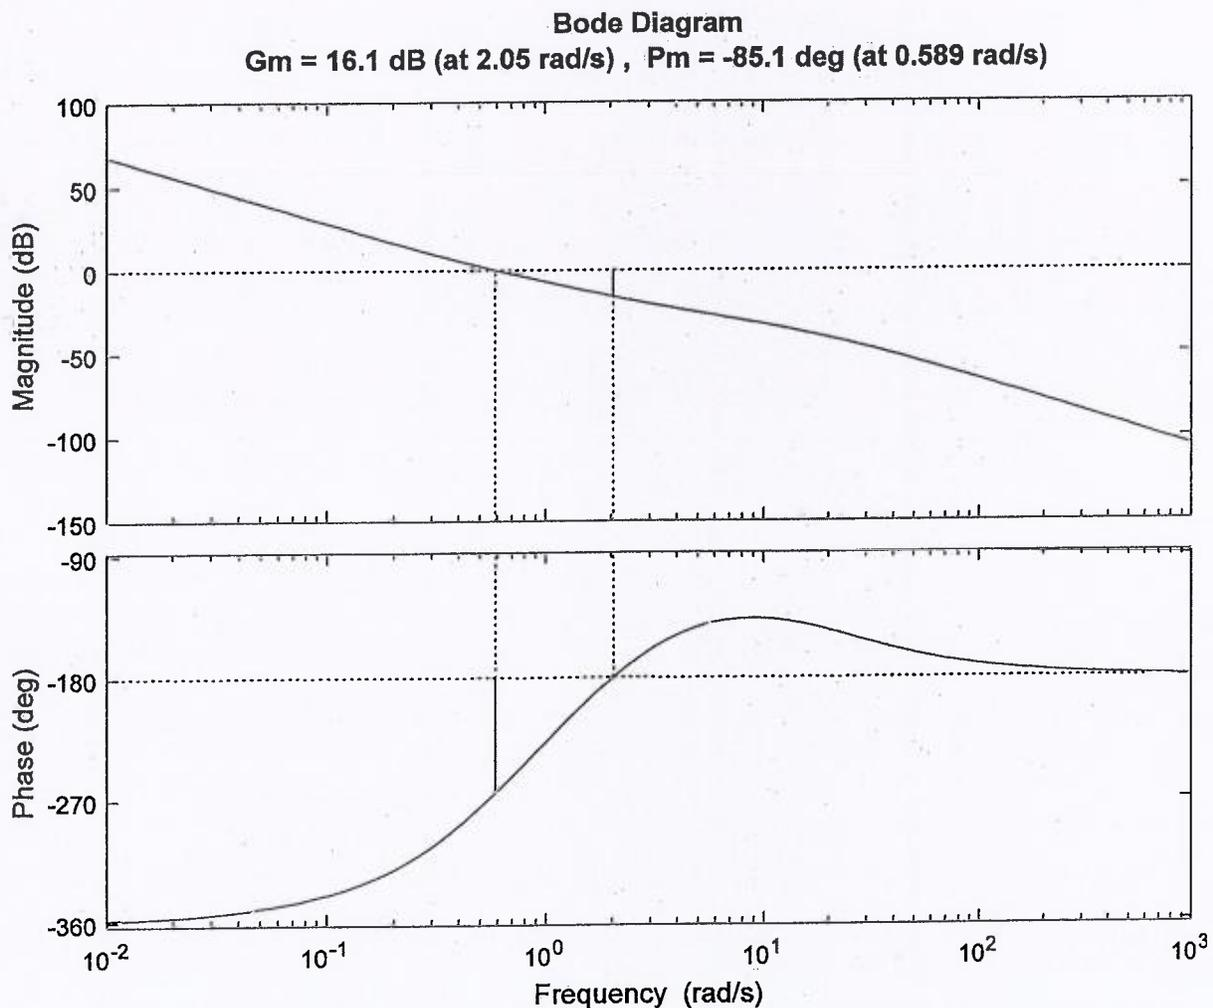
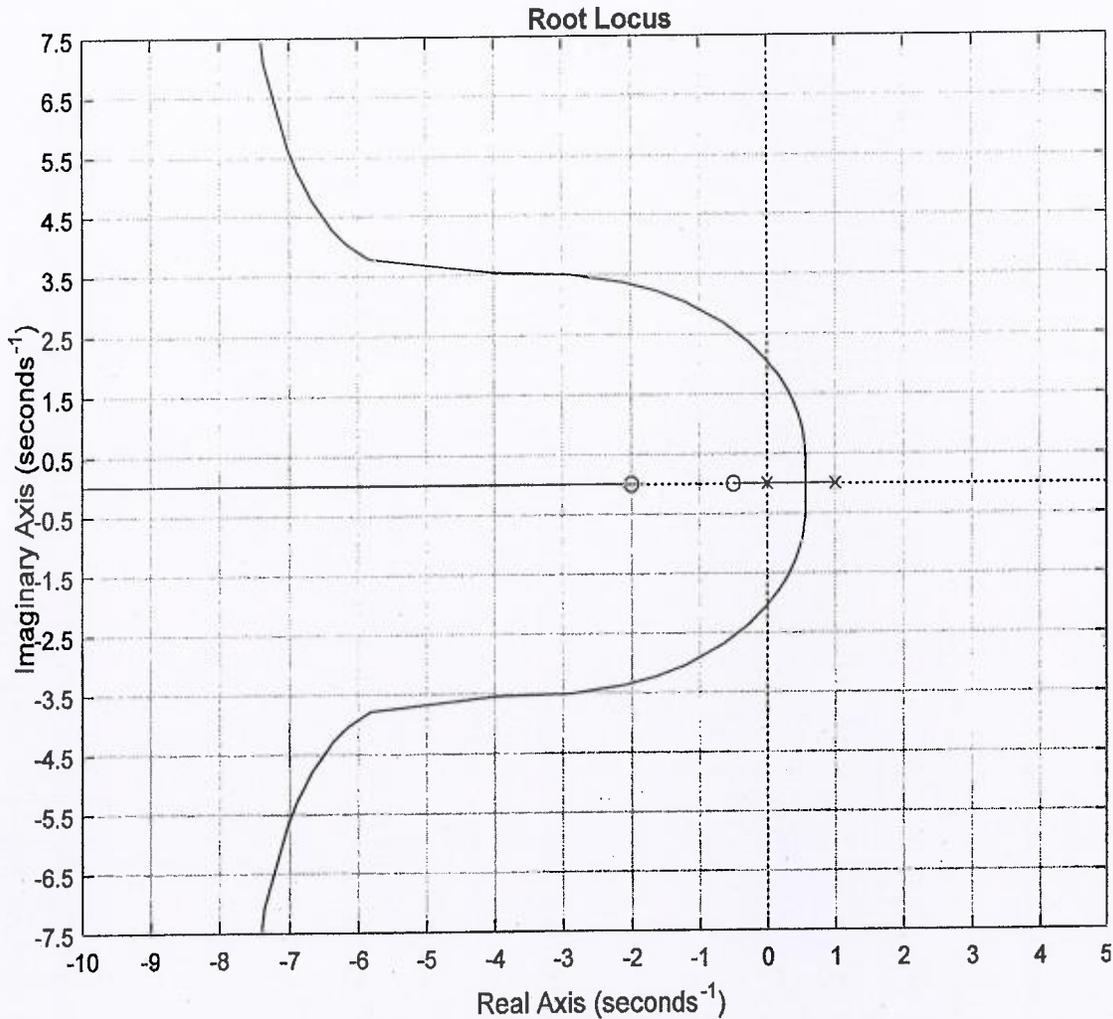

Figure Q4.1 – Open Loop Compensated System Frequency Response
Figure Q4.2 – Root Locus of the PID-Compensated System
The PID controller time constants are as follows: $T_i = 2$ seconds and $T_d = 0.5$ seconds. A frequency response (Bode plot) for the compensated open loop system is shown in Figure Q4.1, and the corresponding Root Locus plot is shown in Figure Q4.2.
1. **(10 marks)** Use the information provided in Figure Q4.1 & Figure Q4.2 to determine the range of Proportional Gain, K_p , for a safe, stable operation of the closed loop system.
2. **(10 marks)** Verify the range of Proportional Gain, K_p , found in item 1) for the safe, stable operation of the closed loop system, by using the Routh-Hurwitz Criterion of Stability.